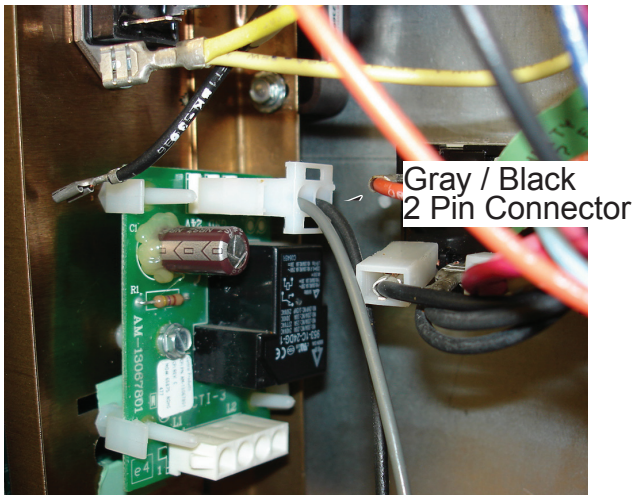

Figure 5
9. Plug 2 pin harness connector, gray black end, into monitor relay board (Figure 5).